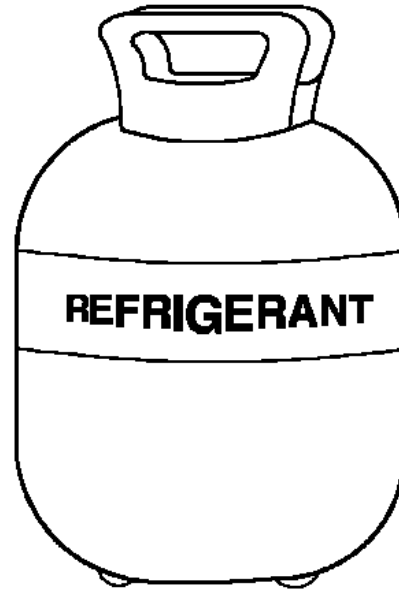

Fig. 1
**Tank of Liquid Refrigerant** – Care should be taken to be sure the proper refrigerant is available. (Fig. 1)